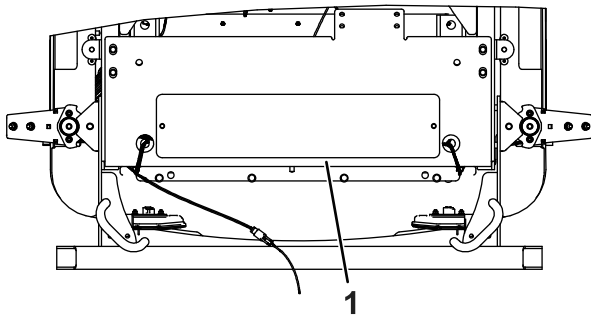

Figure 8
1. Remove the cover under the rear bumper (Figure 8).